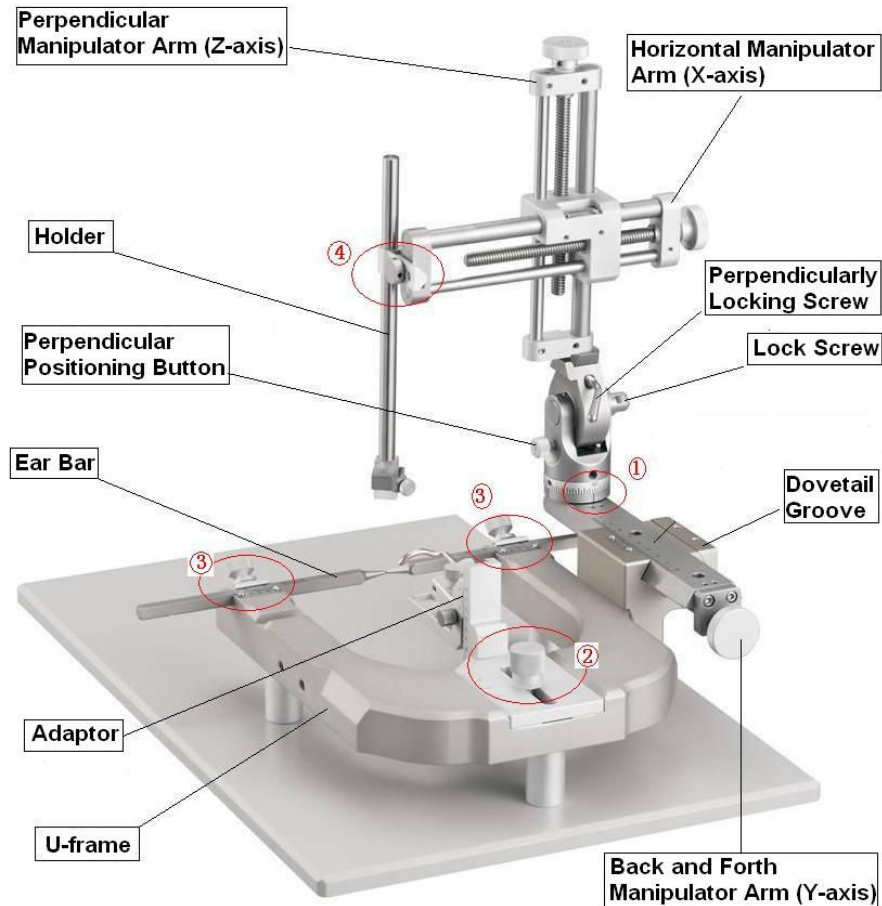

Fig.1 Structure and Installation Diagram of Stereotaxic Instrument
- ① Carefully unpacking the shipping box followed by carefully reading the operation manual and check the components are complete and undamaged, if missing, damaged or defective components are found, please contact RWD and shipping carrier immediately.
- ② (The following installation steps as illustrated in Fig.1) Firstly, retract the bent locking screw at the bottom end of the “+” manipulator arm(X/Z-arm) by rotating it counterclockwise and carefully attach the “+” manipulator arm onto the protractor base of back and forth manipulator arm(Y-arm) as shown in Fig. ①, and align the protractor base scale “0” to the vertical line “|” followed by tightening the locking screw by rotating it clockwise.
- ③ Insert the perpendicular positioning button into the “+” manipulator arm and tighten the locking screw at the opposite of button or lateral slide of the manipulator arm(Y/Z-arm) so that the geometric plane is parallel with the ear-bars.
- ④ Install the adaptor onto the U-frame with one locking screw as shown in Fig. ②, the adaptor could be moved forward or backward after loosening the locking screw.
- ⑤ Put one pair of ear-bar into both the left and right grooves in the U-frame, make sure the scale marks is outwards for ease of reading and balancing the positions as shown in Fig. ③.
- ⑥ Install the holder onto the Z manipulator arm through the “V” block and tighten the clamping screw as shown in Fig. ④, the vertical height of the holder could be adjustable with hexangular wrench tool.